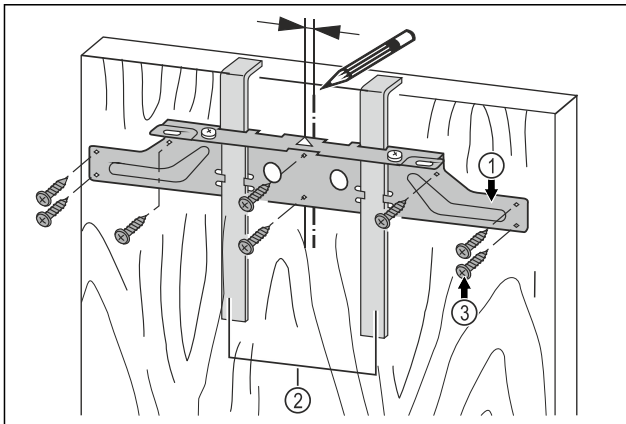

Fig. 44
- Align the fastening crossbeam Fig. 44 (1) in the center of the door.
- Left piping: Move the fastening crossbeam Fig. 44 (1) 6 mm (1/4 in) to the left.
- Right piping: Move the fastening crossbeam Fig. 44 (1) 6 mm (1/4 in) to the right.